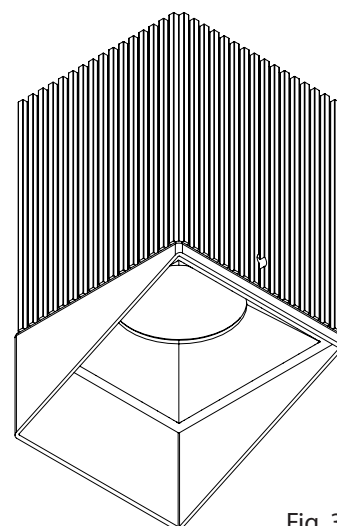

Fig. 3
1. Align the **Lens**, **Shade**, and **Bezel** with each other (Fig. 3) then preassemble them together (Fig. 4).
2. Bend the **Parachute Reflector** and pass each hole over an **Arm** (Fig. 3).
3. Secure the **Trim** by screwing in the **Set Screws** (Fig. 3).